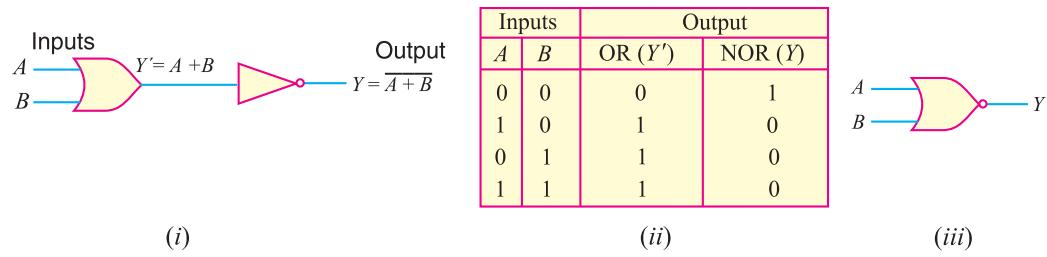

Fig. 26.12
**(ii) NOR gate.** It is a combination of OR gate and NOT gate. In other words, output of OR gate is connected to the input of a NOT gate as shown in Fig. 26.12 (i). Note that output of OR gate is inverted to form NOR gate. This is illustrated in the truth table for NOR gate. It is clear that truth table for NOR gate is developed by *inverting the outputs* of the OR gate.
This Boolean expression can be read as  $Y = \text{not } A \text{ or } B$ . To perform the Boolean algebra operation, first the inputs must be ORed and then the inversion is performed. *Note that output from a NOR gate is high (1) only when all the inputs are low (0). If any of the inputs is high (1), the output is low (0).* Fig. 26.12 (iii) shows the logic symbol for a NOR gate. The bubble (small circle) at the  $Y$  output indicates inversion.